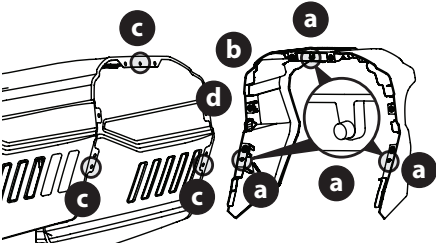

Fig. 5
There are three (3) alignment posts (a) on the hood collar (b) that line up with corresponding alignment holes (c) in the hood (d) (Fig. 5).